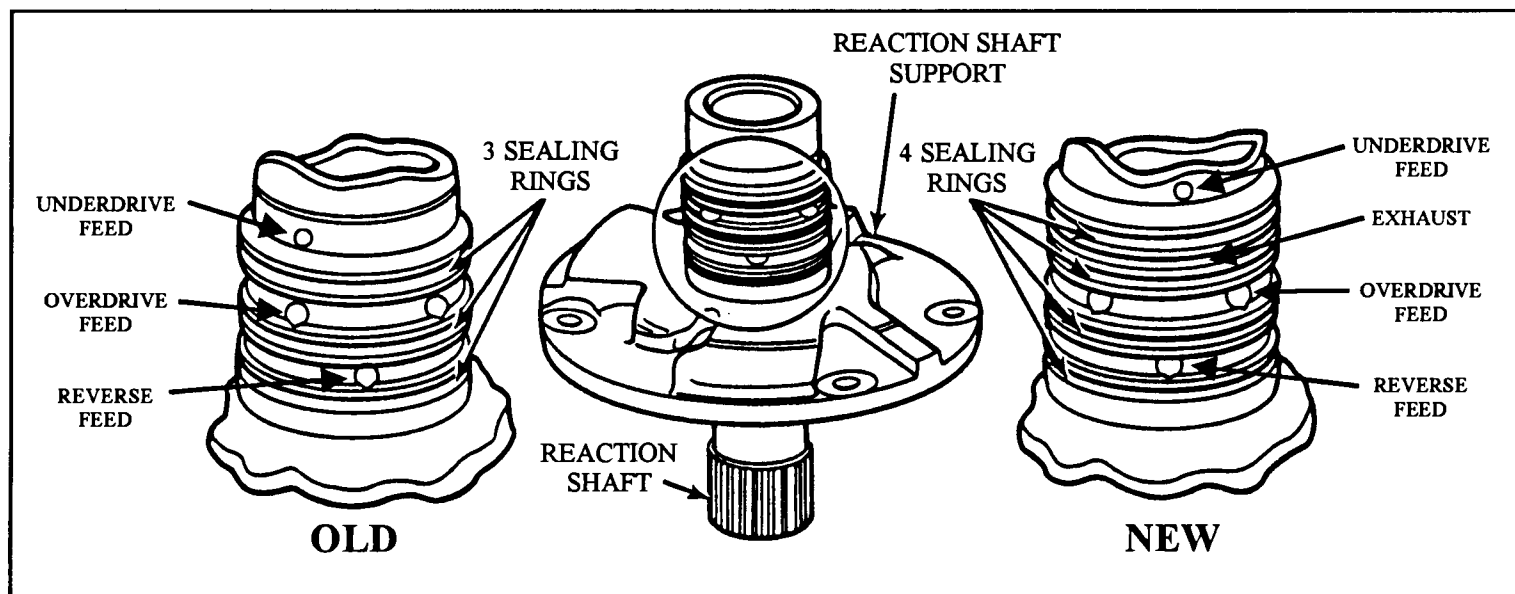

Figure 1
CHANGE: Beginning in April, 1989 a new Reaction Shaft Support (Stator) was introduced, with the addition of another ring groove and sealing ring. The old support has 3 sealing rings, and the new support has 4 sealing rings (See Figure 1).
- (1) **REACTION SHAFT SUPPORT** - The new support is longer, and has 4 sealing rings, where the old support only has three (See Figure 1).